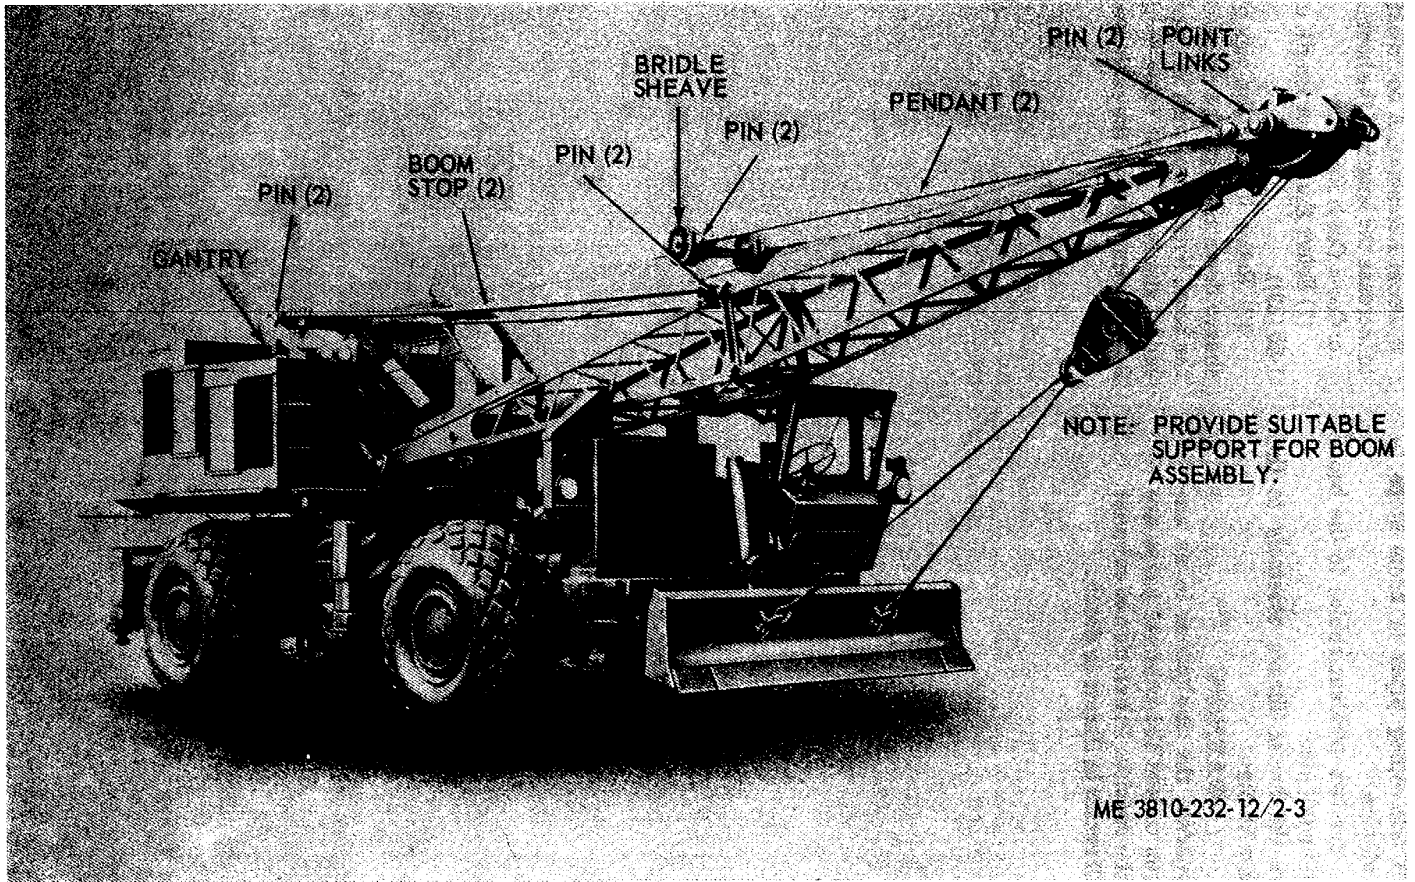

Figure 2-3. Crane boom installations.
(4) Refer to figure 2-3 and install telescoping pipes of boom stops to top of gantry, and install pins.